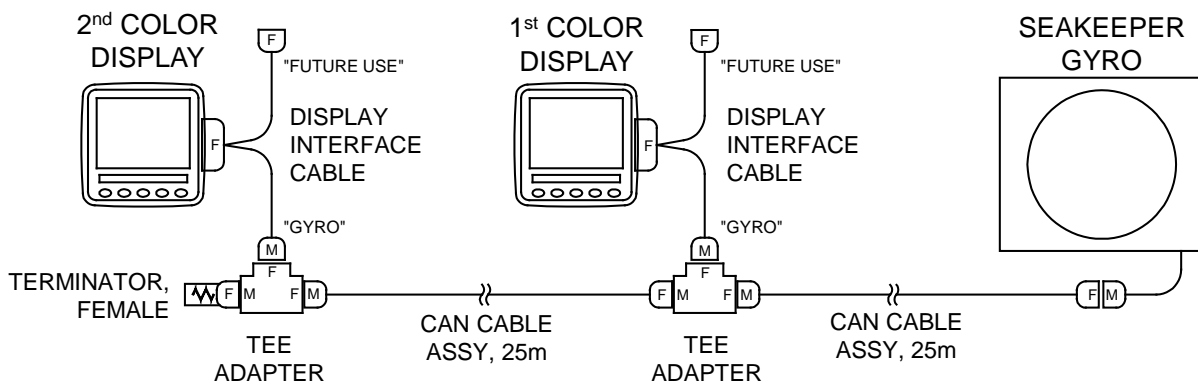

FIGURE 10 – CABLING FOR 2 OPERATOR STATIONS
- a. Figure 10 below shows the entire serial communications link for 2 Operator Stations. The Terminator must be installed on the Tee Adapter farthest from the Gyro.